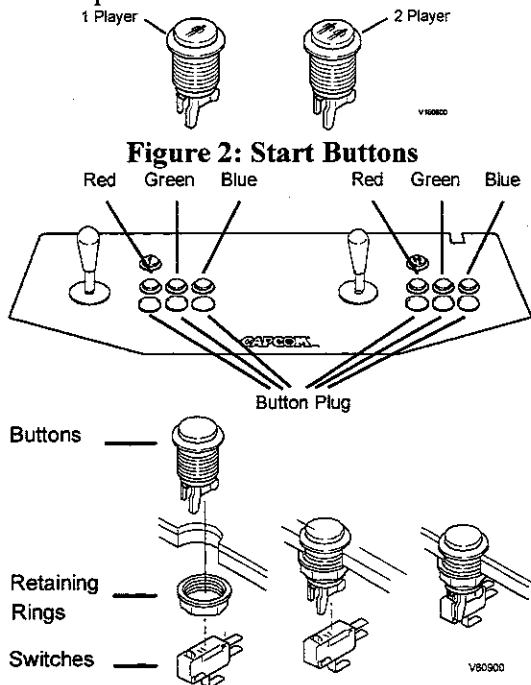

Figure 3: Control Panel Buttons and Switches
16. Install all buttons and retaining rings on the control panel as shown in Figure 3. Install one red buttons to the immediate right of each joystick, install one green buttons to the right of the red ones, and install one blue buttons to the right of the green ones.
17. Install the switches on the buttons as shown in figure 3. Orient the switches so that when a button is pressed, the plastic contact on the switch is depressed.